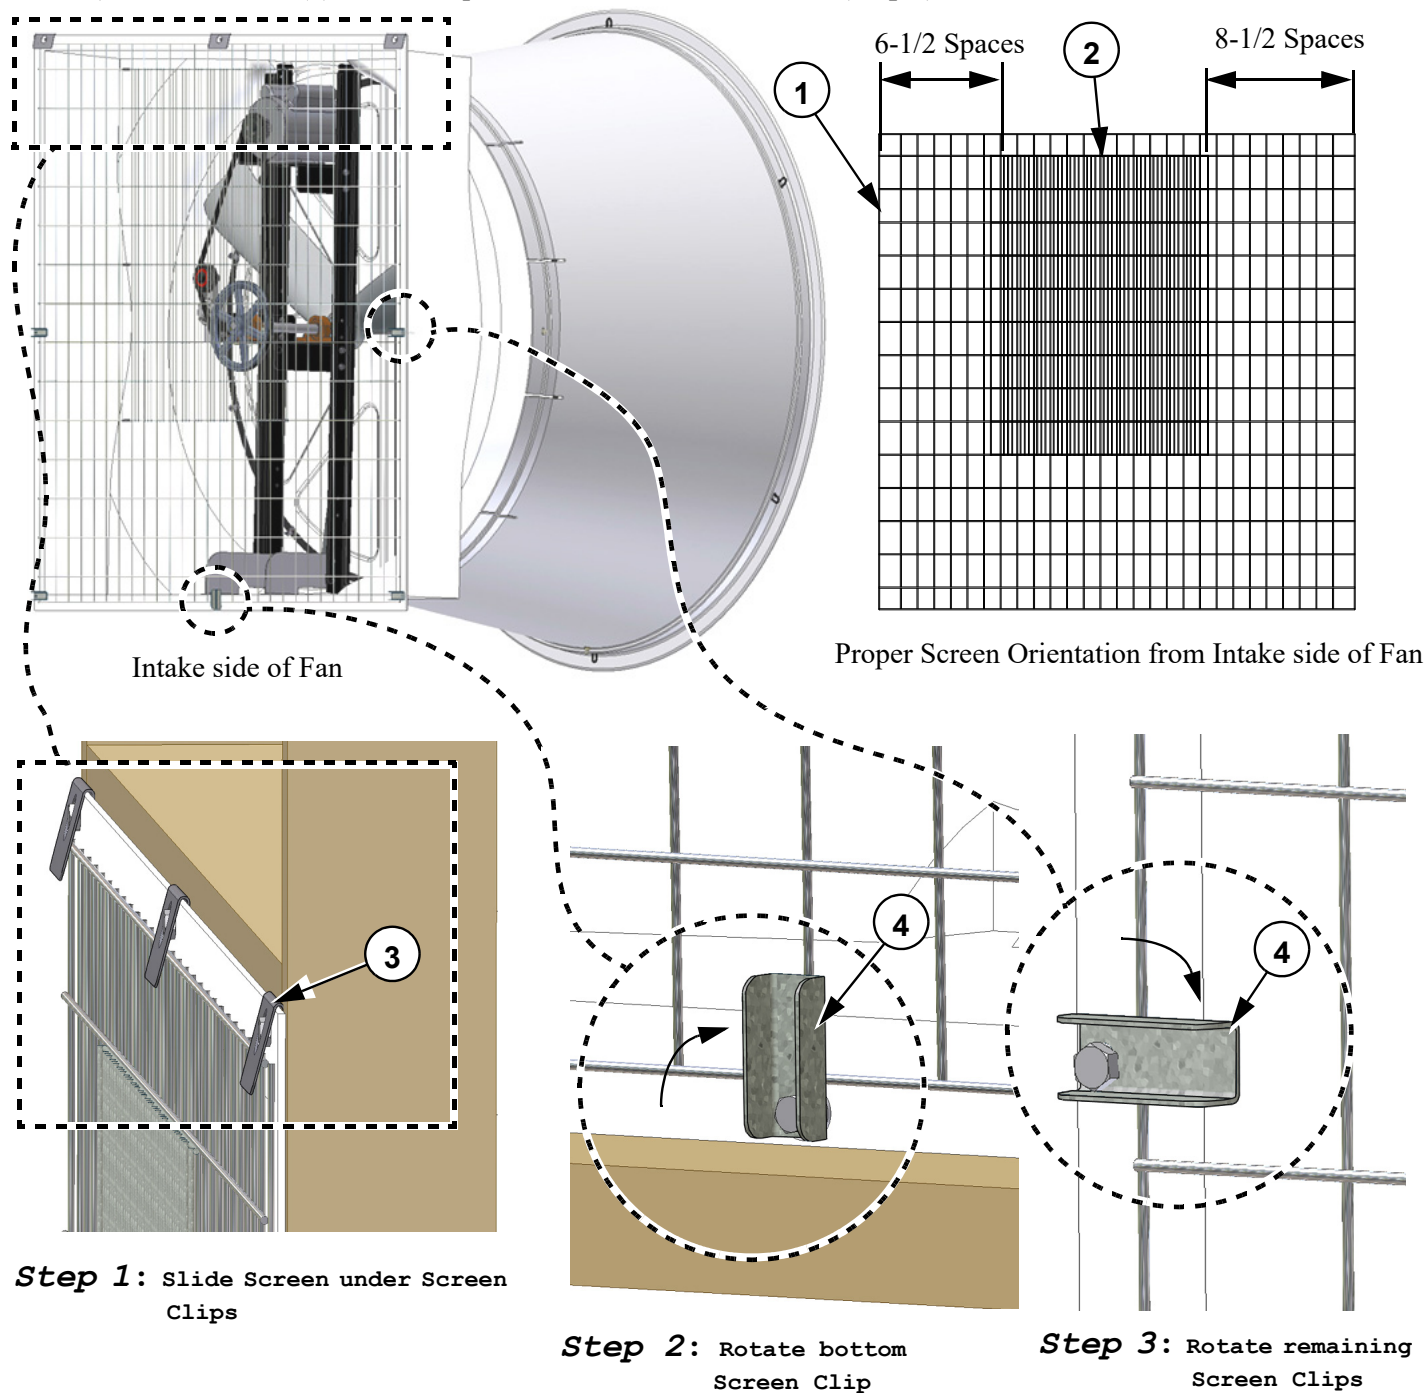

Figure 12. Attaching the Screen
Orient the Screen as shown below with the fine mesh section on the outside of the Fan. Slide the top of the Screen under the Screen Retainers (**Step 1, Figure 12**) and turn the bottom Screen Clip to hold the Screen in place (**Step 2**). Turn the other (4) Screen Clips to secure the Screen in Place (**Step 3**).